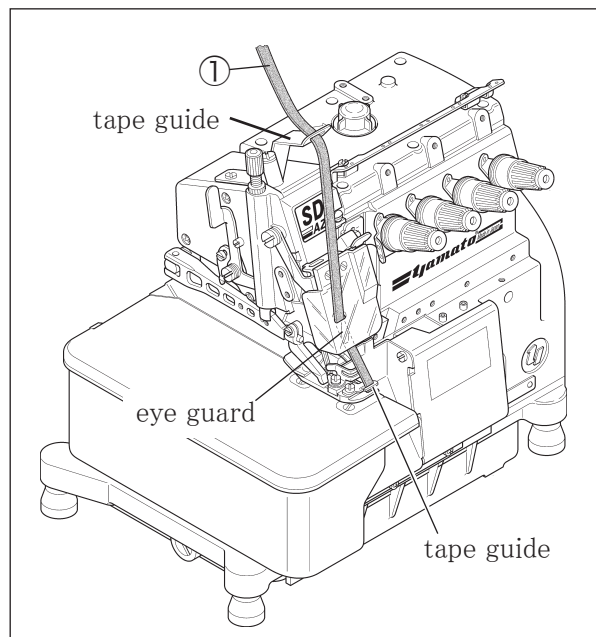

Fig. 5-13
Pass a tape ① by referring to Fig. 5-13 for the models of the tape attaching.